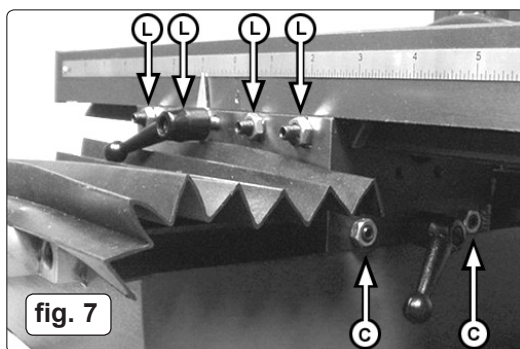

fig. 7
- 4.7. Setting the column angle. If required, the column carrying the head can be pivoted and locked at any angle between vertical and 45° in either direction as indicated in fig.6. Before loosening the pivot bolt (See fig.7) the weight of the column must be firmly supported, preferably by a second person. Once the bolt is loose, lower the column to the required angle with reference to the scale provided and fully tighten the bolt.
- 6.6. Adjust the accuracy of the cross feed, longitudinal feed and head travel on a monthly basis. Any wear or slack can be taken up by adjusting the position of the appropriate mitre strip. To do this use a hex key and spanner as shown in fig.8. Adjust the longitudinal feed using the adjusters marked 'L' in fig.7. Loosen the locking nuts on all four adjusters and back them off. Advance the adjusters until they are felt to make firm contact with the mitre wedge, ensuring that they are all tightened to the same torque. Operate the feed wheel to check the movement of the bed but do not force the movement. Back off the adjusters by an eighth of a turn and tighten the locknuts. Check that the table movement is smooth. If the movement is still tight, back the adjusters off a further eighth turn and tighten the adjuster nuts.
- 6.6.1. Adjust the cross feed using the two adjusters marked 'C' in fig.7.